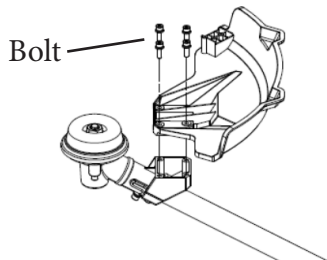

Fig. 8
- Lift the trimmer head and face it upward. Align the FOUR mounting holes in the guard with the four assembly holes at the base of the shaft. Make sure that the internal surface of the guard faces towards the trimmer head. (Fig. 8)
- Lock the guard in place and screw the four bolts on with the washers (Fig. 8).